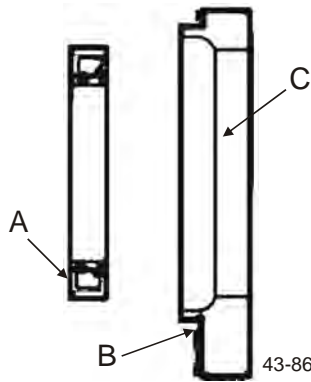

Figure 42 - Press out grease seal
7. Scrape the silicone sealant (Figure 42, item B); then press out and discard the grease seal (item A) from the front bearing retainers (item C).